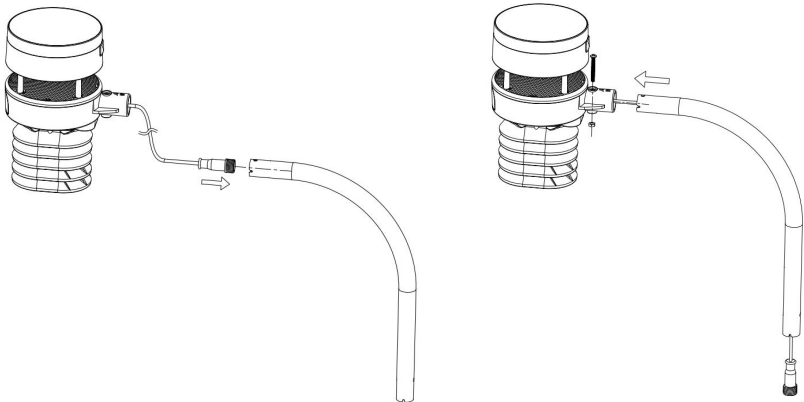

Figure 9: Sensor package mounting diagram 5-2
2. Pass the connector cord through the arm tube as Figure 9: